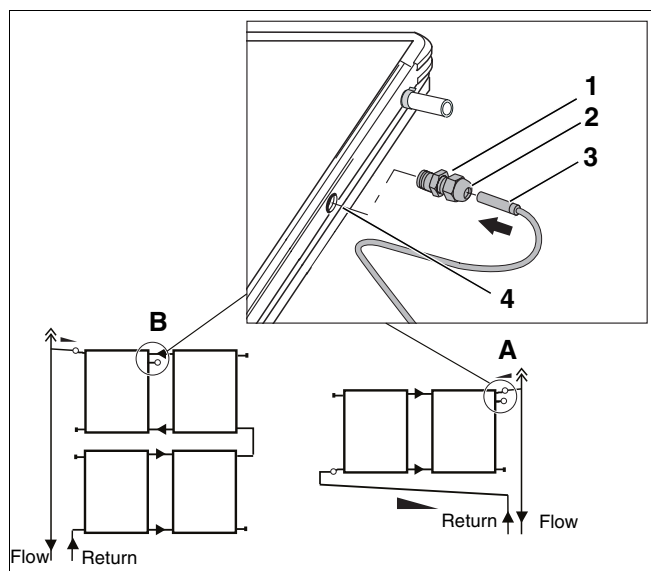

Fig. 45 Collector sensor connection
- Insertion point (Fig. 45, **Item A**) for single row collector systems.
- Insertion point (Fig. 45, **Item B**) for dual row collector systems.
- ▶ Insert the collector sensor (Fig. 45, **Item 3**) through the compression fitting (Fig. 45, **Item 1** and **2**) and push the collector sensor approx. 170 mm until it reaches the end of the sensor pocket (Fig. 45, **Item 4**).
- ▶ Turn the bottom part of the compression fitting (Fig. 45, **Item 1**) into the sensor pocket thread (Fig. 45, **Item 4**).
- ▶ Tighten the compression fitting (Fig. 45, **Item 1** and **2**).